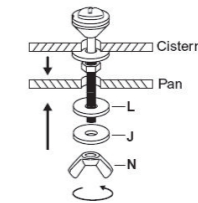

Fig. 4
4. Slide donut washer (E) over fixing nut (D) and slide cistern onto pan backplate by locating screws through the pan.
5. Secure the cistern to the pan using washers (L & J) and wingnut (N). (see **Fig. 4**).